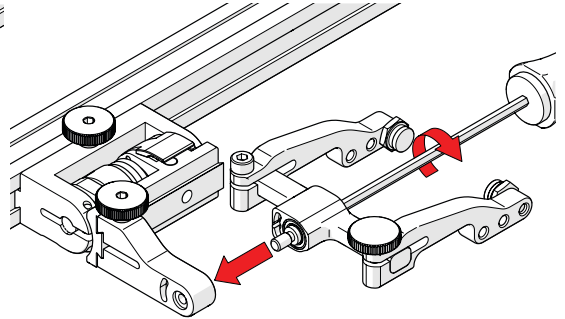

Fig. 90 - Install yoke to swing arm
- 6.** Using the 3 mm hex driver, screw the yoke pivot screw into the opposite side of the probe holder swing arm (*Fig. 90*). Ensure the yoke is level to avoid issues with the plunger/set screw.